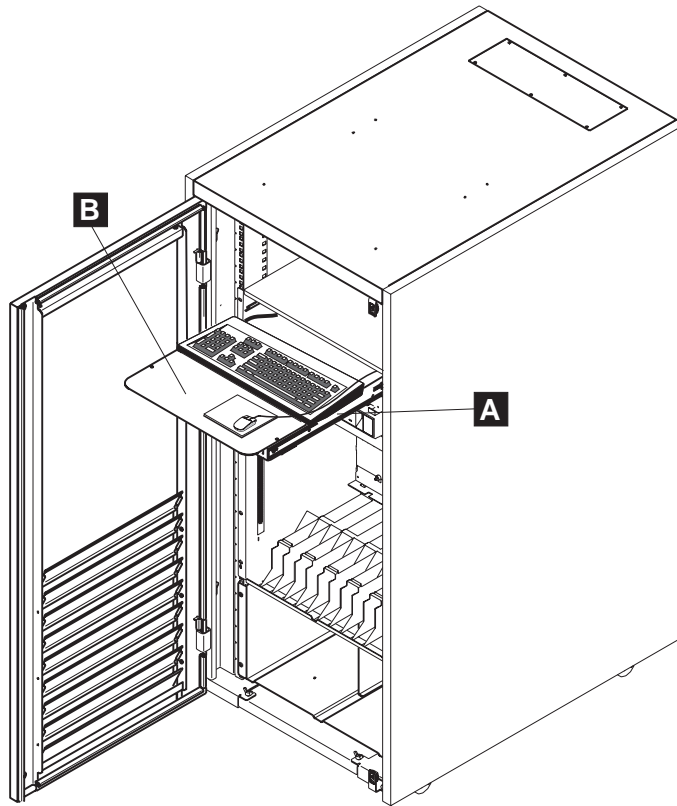

Figure 1-20. Keyboard Installation in 29 U Rack
1. ____ Open the service drawer **A**, and install the mouse plate **B** as shown in Figure 1-20.